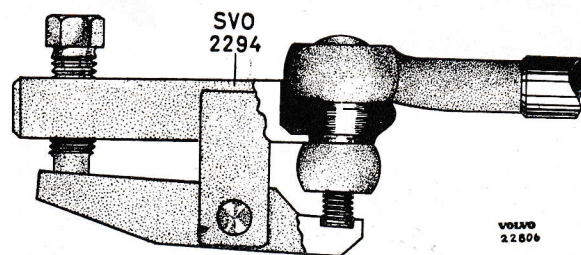
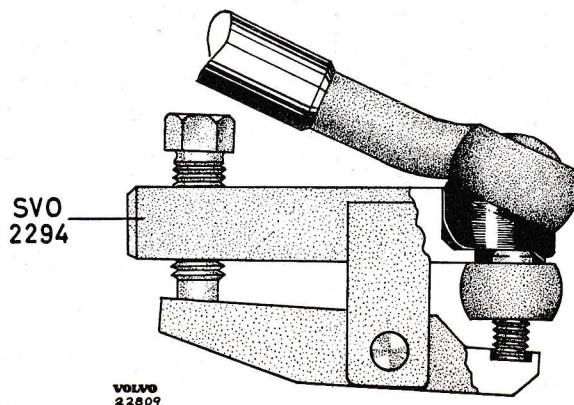

Fig. 32. Removing ball joint.
Fig. 33. Removing the steering rod.
The steering rod ball joints are made integrally with the steering rod so that the rod must be replaced complete. When removing, the split pins and castle nuts are first removed. Tool SVO 2294 is then placed on the ball joint as shown in Fig. 32. Press in the tool properly and make sure that the thread on the ball joint enters the recess in the tool. Screw in the screw until the ball joint releases. If the steering rod is to be removed without taking off the wheels, the ball joint on the pitman arm and idler arm respectively must first be disconnected as above. When doing this the steering rod is turned forwards and upwards and the tool placed on the ball joint as shown in Fig. 33.
The tie-rod ball joints can be replaced independently. When replacing, the ball joint is first disconnected from the pitman arm or idler arm respectively as above (see Fig. 32). The locknut or clamping screw respectively is then slackened and the ball joint screwed out. The new ball joint to start with is screwed in the same number of turns so as to facilitate adjusting toe-in. Lock the ball joint to the rod.
2. Screw back the screw on puller SVO 2294 and place the tool on the tie-rod ball joint at the idler arm as shown in Fig. 32. Press in the tool properly and make sure that the thread on the ball joint enters the recess in the tool. Screw in the screw until the ball joint releases from the idler arm.